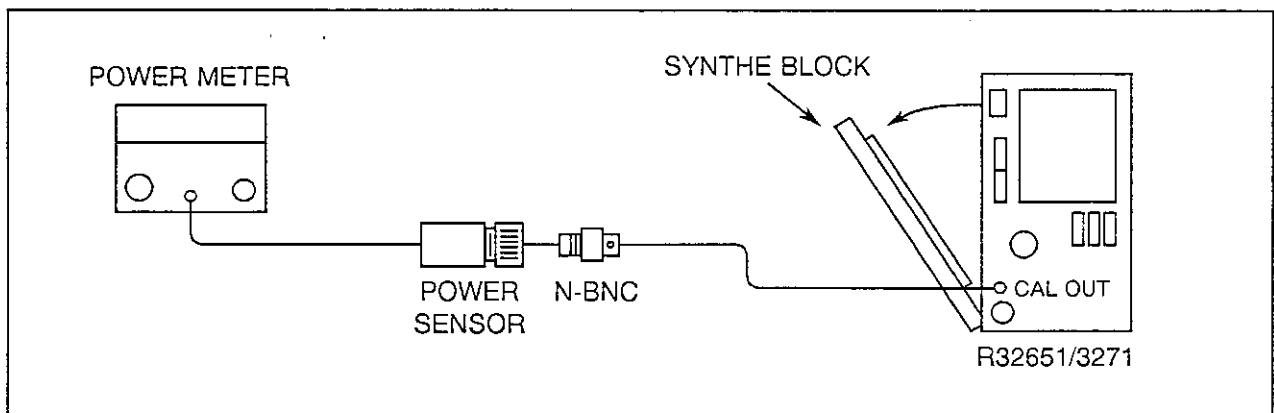

Figure 5-13 Calibrator Amplitude Adjustment Setup
- (1) Turn off the POWER switch of the R3265/3271, and disconnect the power cord. Remove the analyzer cover, place the analyzer as shown in Figure 5-13, and fold down the SYNTH BLOCK assembly.
- (2) Turn on the POWER switch of R3265/3271, and warm it up at least 30 minutes before starting adjustment.
- (3) Zero and calibrate the power meter in the Log Display mode. Enter the 25MHz CAL FACTOR signal of the power sensor to the power meter.
- (4) Connect the R3265/3271 through an N-BNC adapter directly to the CALOUT jack on the R3265/3271 front panel.
- (5) Adjust R151 of the SYNTH block for a -10.00 dBm reading on the power meter display.